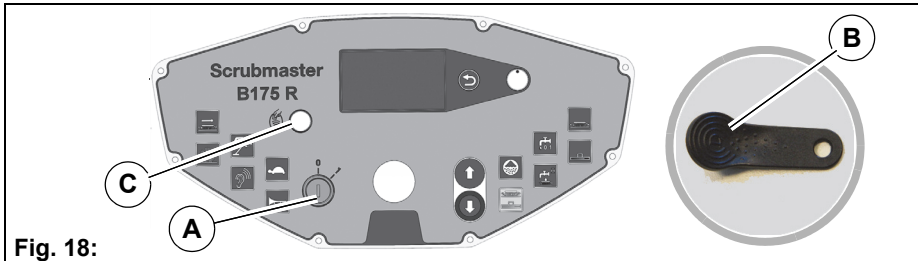

Fig. 18:
1. Turn the machine on with the key switch **Fig. 18-A**.
2. Press the I-Button Key **Fig. 18-A** against the I-Button Reader **Fig. 18-B** for one to two seconds.